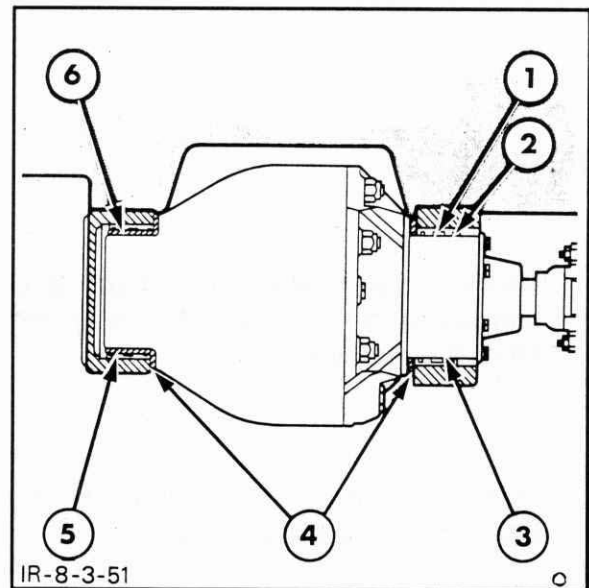

Figure 7-114
1. Remove the front and rear support pillars from the axle trunnions. Inspect the bushings on the front trunnion and the rear support bearing surface on the differential housing trunnion, Figure 7-114.